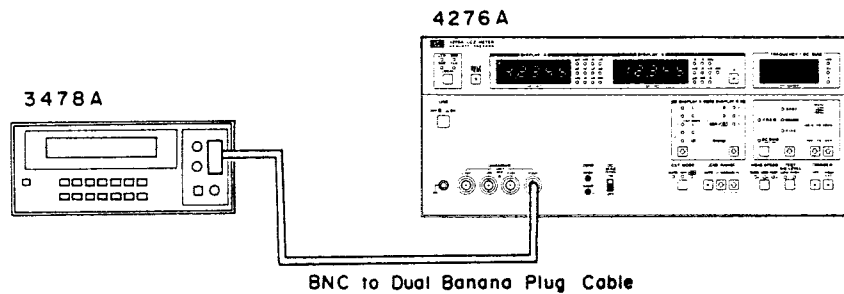

Figure 4-2. Test Signal Level Accuracy Test Setup.
1. Connect the BNC-to-dual banana plug cable to the UNKNOWN HCUR terminal of the 4276A and to the 3478A's input as shown in Figure 4-2.